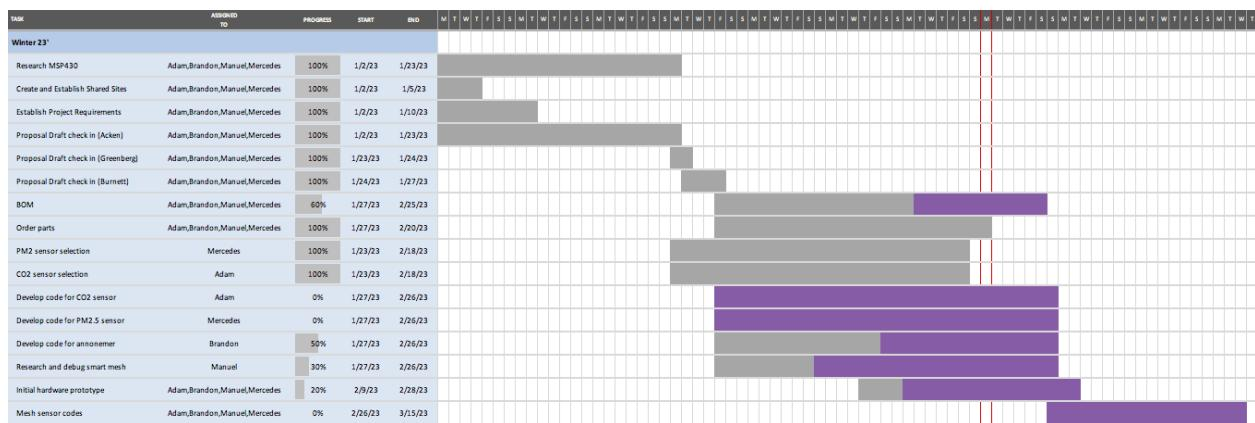

Figure 1: Original Gantt chart as seen on project proposal
- Enhanced gantt chart as shown in figures 1 and 2.
Below is both the general timeline of the project as a whole as well as a breakdown of the specific tasks that are left moving forward. Gantt charts in figures 1 and 2 as well as table 1 are representative of the timeline for this term only. Figure 3 represents an outline of the schedule for spring term. Our team has factored in additional time for potential delays, however the current dates are subject to change. We intend to have our 3 modes built by the end of may, as displayed in our figure 3 gantt chart.